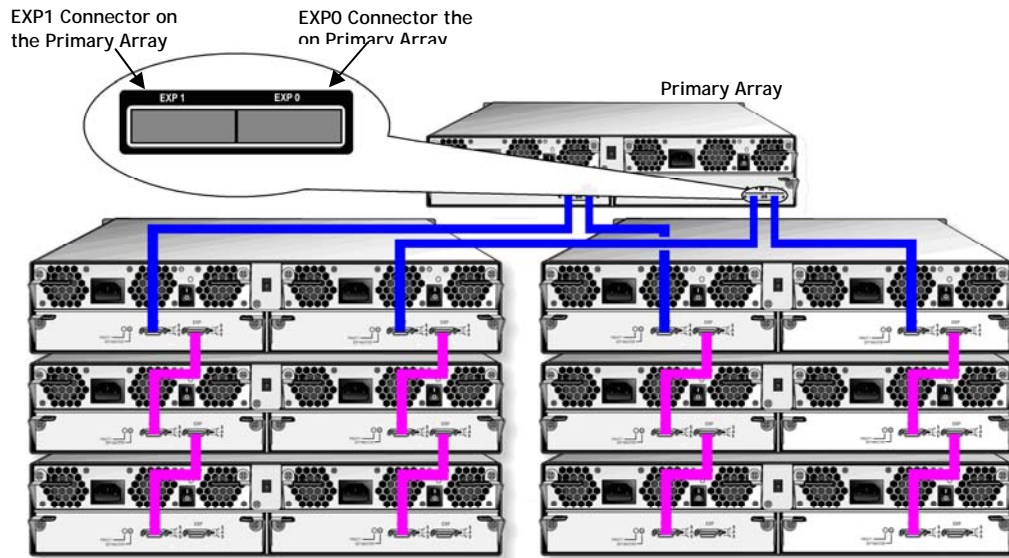

Figure 4-5. Connecting the iS512-SX Expansion Arrays to the iS512 Primary Array
To connect the first two iS512-SX expansion arrays to the iS512-08 or iS512-10G primary array, use the following procedure (and refer to Figure 4-5).
3. If your system is equipped with redundant controllers, repeat the above steps for the redundant controllers as shown in Figure 4-5.